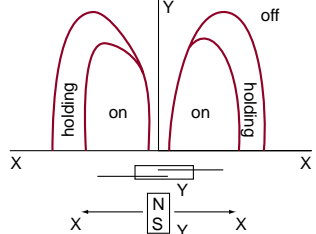

Figure 2
3) In this motion, the magnet moves parallel to the switch. When centered, the switch is closed; when moved slightly to either side, the switch will open. If movement continues away from the gap, closure will again occur. Figure 1 shows how the field strength varies by distance. This type of actuation is very common in automotive and industrial level detectors. Note: the on/off characteristics vary greatly by turning the magnet 90°, as shown in figure 2.